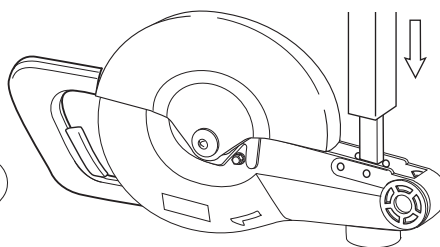

Fig. 9.
- (2) Press down spring holder and compression spring 28 with arbor press, to the position where the bars can be inserted into the side holes of blade case. See Fig. 9.